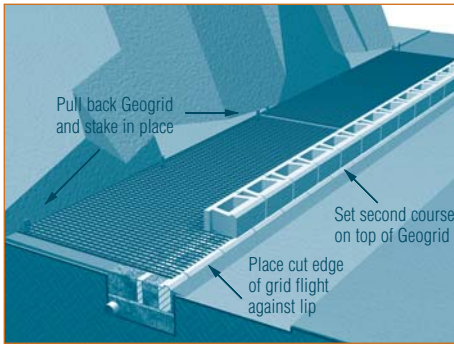

Figure 9: Install First Layer of Geogrid
- Stake in place before installing drainage and backfill material (Figure 9).